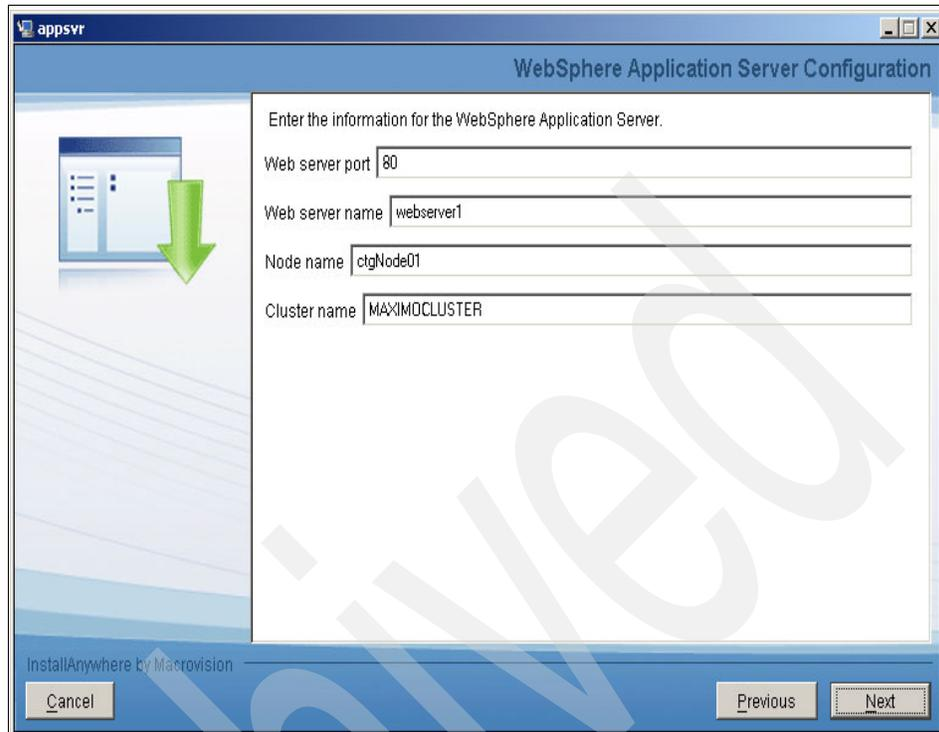

Figure 5-18 WebSphere Application Server Configuration
- From the WebSphere Application Server Configuration panel (see Figure 5-18 on page 91), enter the following information, and then click **Next**.